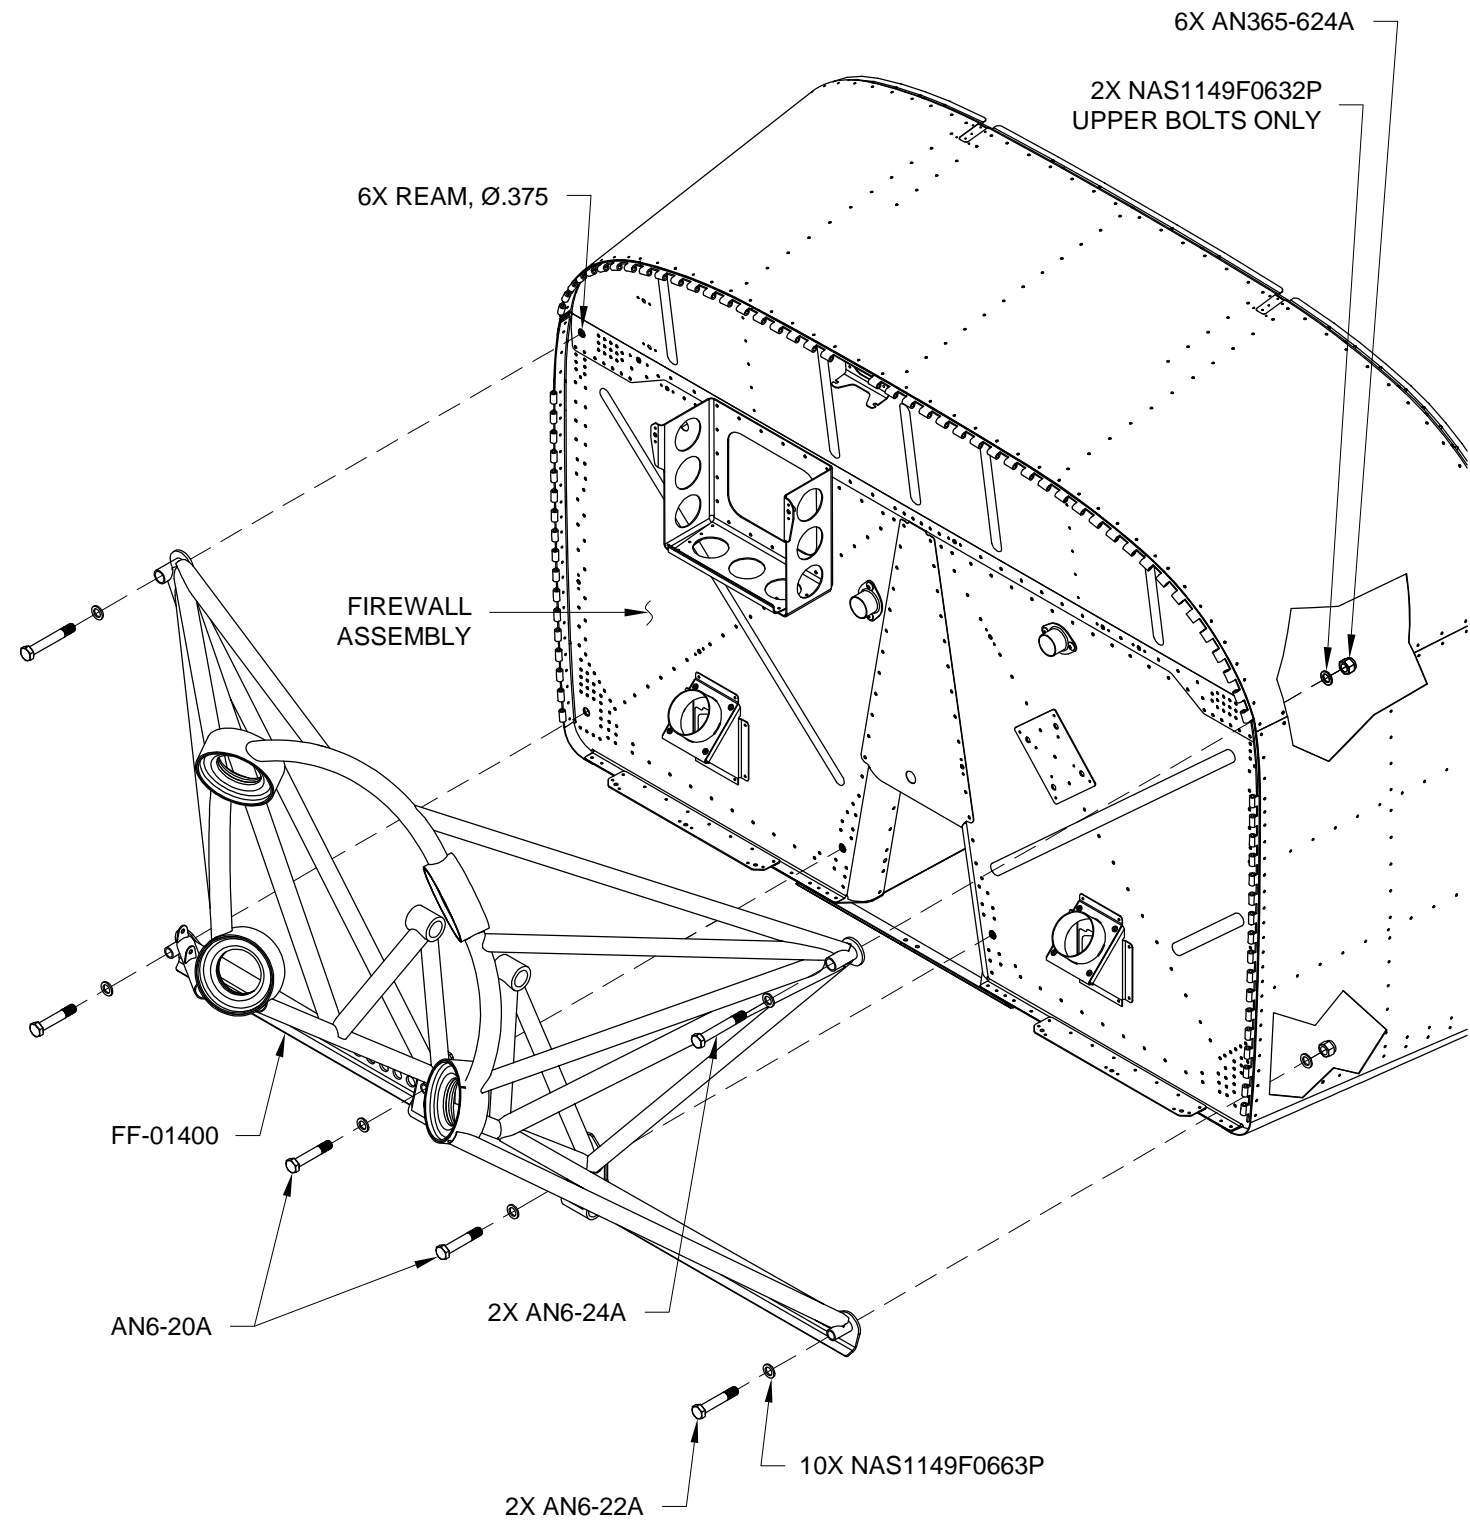

FIGURE 1: ATTACHING THE ENGINE MOUNT
Step 1: Ream the six engine mount attachment holes as called out in Figure 1. Be sure the reamer remains perpendicular to the Firewall Assembly while reaming.
Step 2: Bolt the FF-01400 Engine Mount to the Firewall Assembly using the hardware called out in Figure 1.